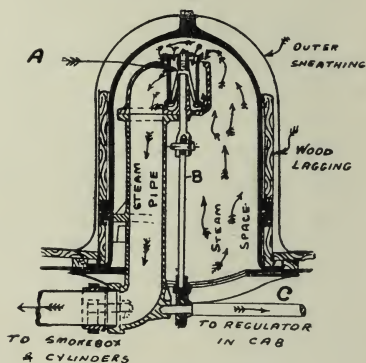

Fig. 7.—STEAM DOME.
A very popular type of regulator valve for use in the dome is shown in fig. 7. The valve itself (A) is cylindrical in form, and has top and bottom seatings. When lifted off these seatings by means of the rod B (which is raised and lowered by means of an eccentric worked from the cab by rod C) steam enters at the top (as indicated by arrows), and also passes through the body of the valve and enters the pipe from the under as well as the upper side of the valve. This